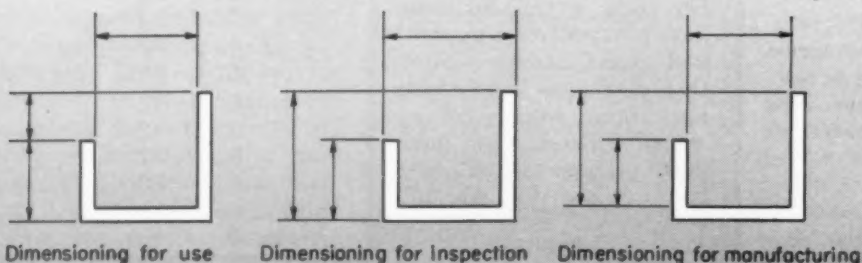

Fig. 3—Orientation of drawing dimensions for three different functional requirements—
**The Dimensioning Problem:** One of the places in a drafting system that always binds is the philosophy of dimensioning. It takes a lot of grease to keep it running smoothly enough to please everybody. Basically, there are three standard methods of dimensioning to choose from, dimensioning for manufacture, dimensioning for inspection, and dimensioning for use, Fig. 3.